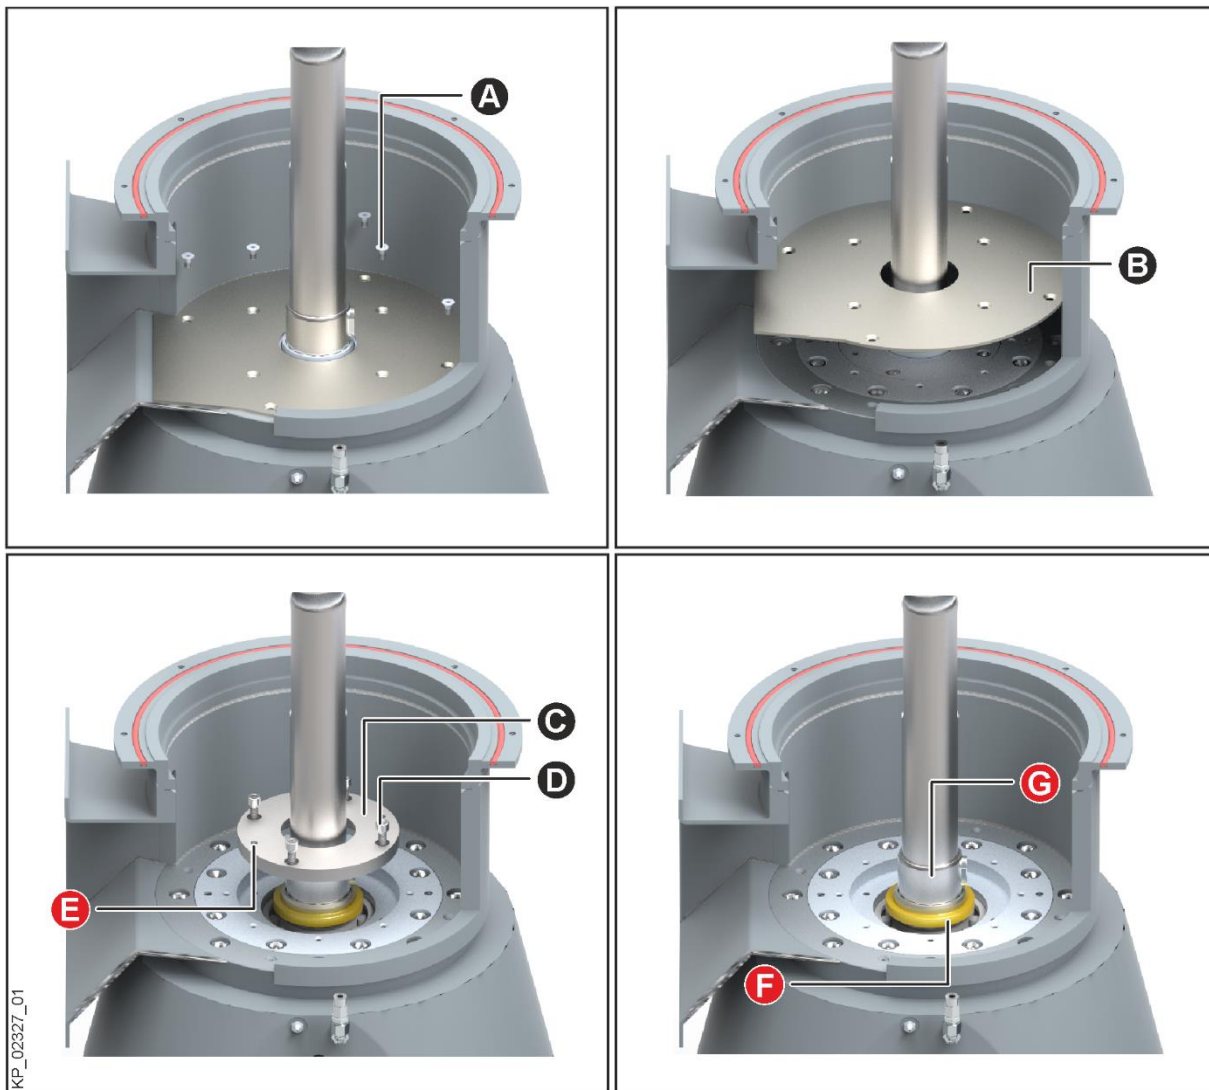

Fig. 62: Overview of the centre part with bottom plate and bearing cover
- Remove the countersunk screws (Fig. 62/A) in the bottom plate (Fig. 62/B).
- Lift out the bottom plate (Fig. 62/B).
- Remove the cheese head screws (Fig. 62/D).
- Insert suitable screws into the bores (Fig. 62/E) of the bearing cover (Fig. 62/C).
- Separate the bearing cover (Fig. 62/C) by force and remove it.
- Check the seal (Fig. 62/F) and the wear ring (Fig. 62/G). If necessary, replace them:
- Mount the bearing cover (Fig. 62/C) and the bottom plate (Fig. 62/B) again and tighten the screws.